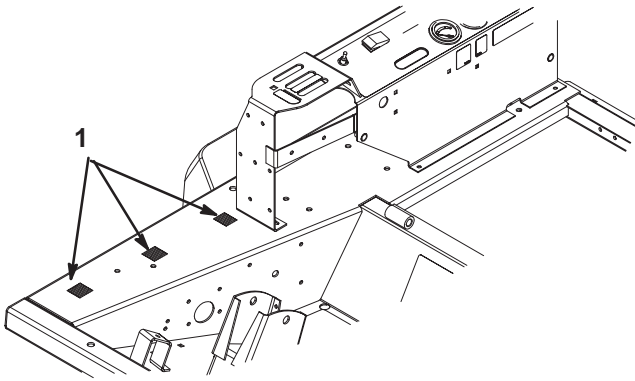

Figure 18
- Plug (2) wire harness terminals onto toggle switch terminals.
- Affix the mounting pads to underside of operator platform at locations shown in figure 18. Clean surface well before affixing pads.